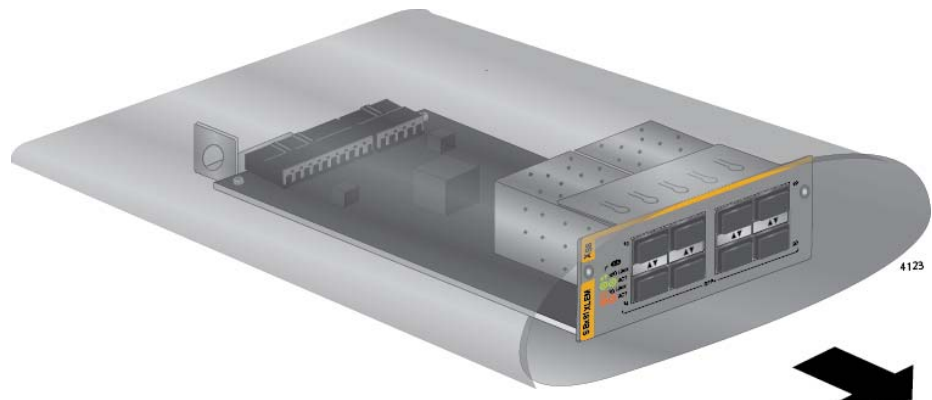

Figure 76. Removing the Expansion Module from the Anti-static Bag
7. Remove the expansion module from its shipping container and anti-static bag. Refer to Figure 76.